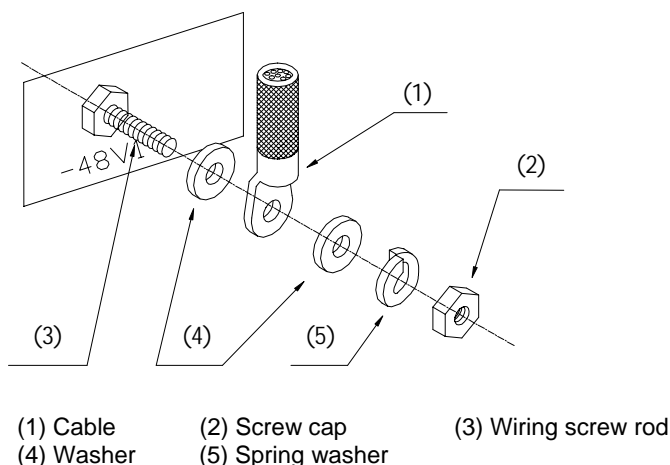

Figure 4-13 Fixing the power cable
- 2) Add common washers and spring washers, as shown in Figure 4-13.